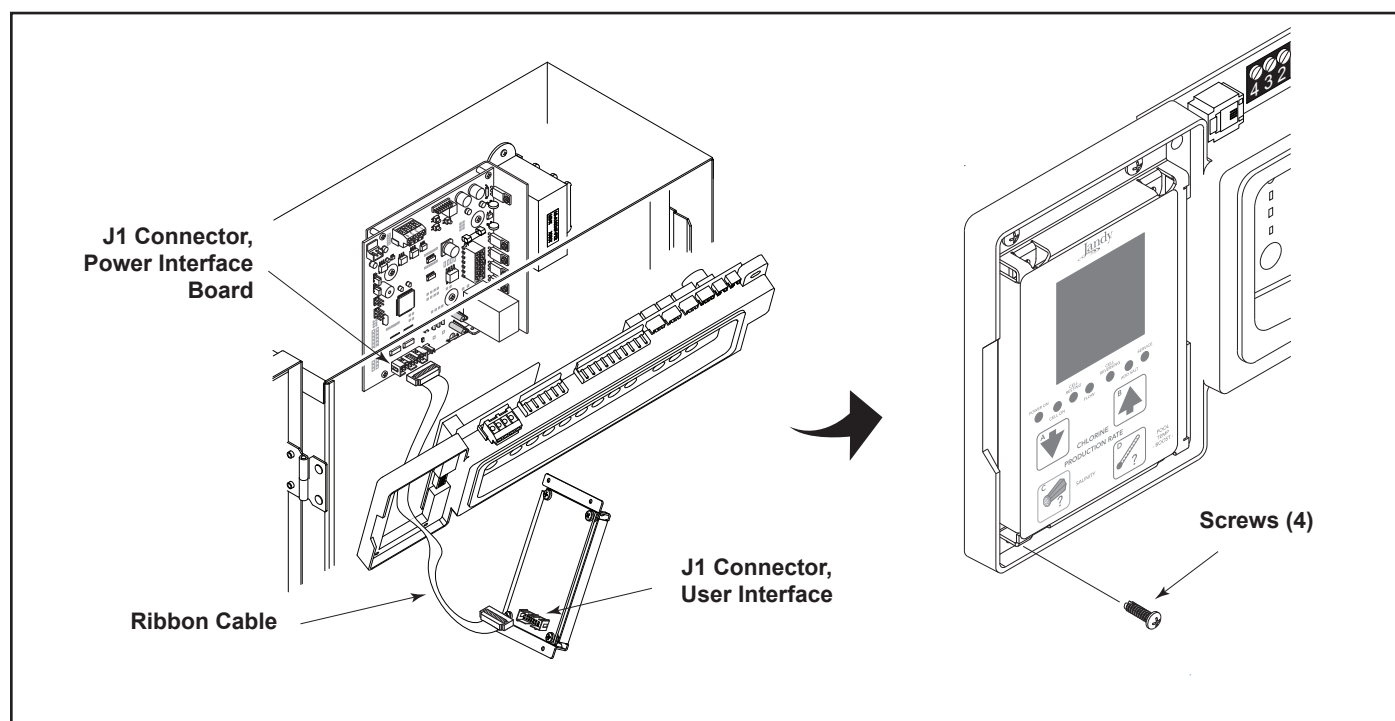

Figure 8. Installation of the User Interface
1. On the chlorine generator user interface board, connect one end of the ribbon cable to the 16-pin J1 connector as shown in Figure 8.
3. Attach the chlorine generator user interface board to the bezel using the four (4) screws provided.